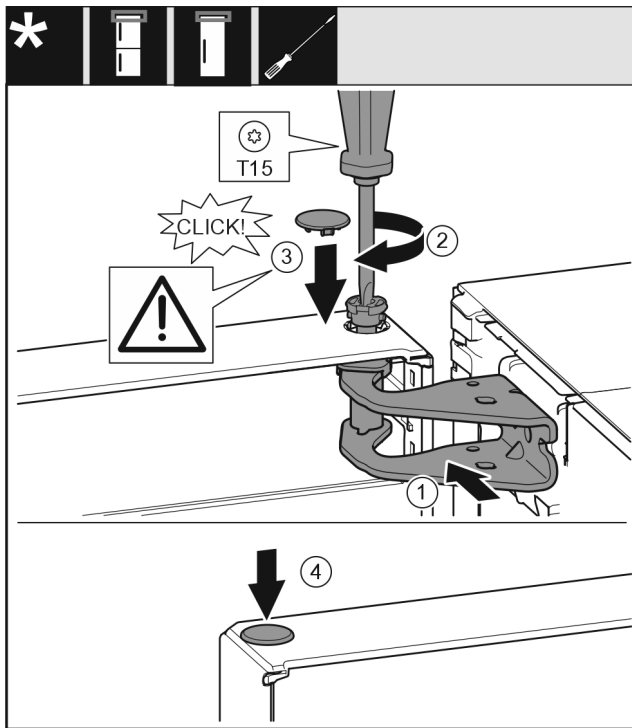

Fig. 25
- ▶ Align the top door with the opening in the swap bearing block Fig. 25 (1).
- ▶ Insert the bolt Fig. 25 (2) and use screwdriver to tighten it.
- ▶ Insert the cover Fig. 25 (3).
- ▶ Check that the cover Fig. 25 (3) is resting on the door.
- ▶ Insert the cover Fig. 25 (4).